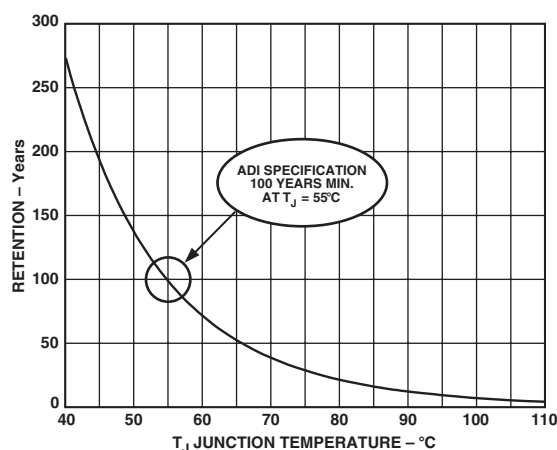

Figure 16. Flash/EE Memory Data Retention
*Retention* quantifies the ability of the Flash/EE memory to retain its programmed data over time. Again, the ADuC836 has been qualified in accordance with the formal JEDEC Retention Lifetime Specification (A117) at a specific junction temperature ( $T_J = 55^{\circ}\text{C}$ ). As part of this qualification procedure, the Flash/EE memory is cycled to its specified endurance limit described above, before data retention is characterized. This means that the Flash/EE memory is guaranteed to retain its data for its full specified retention lifetime every time the Flash/EE memory is reprogrammed. It should also be noted that retention lifetime, based on an activation energy of 0.6 eV, will derate with  $T_J$ , as shown in Figure 16.